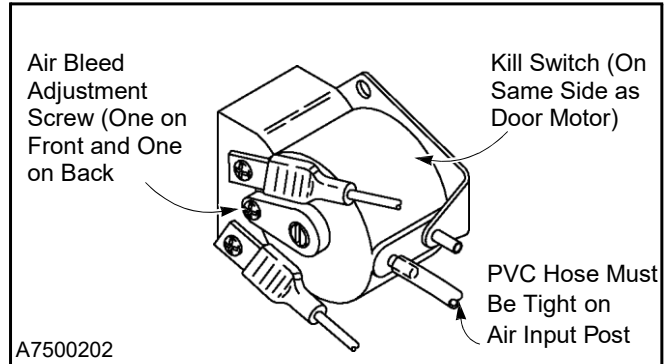

Figure 38
2. Make sure the clear PVC hose is tight on the air input post so that air leakage cannot occur and vibration will not cause the hose to fall off. Also make sure the hose is not kinked. (See Figure 38)
3. The air bleed has been set at the factory and should not require adjustment. To adjust the air bleed, turn the air bleed adjustment screws located on the front and back of the switch fully clockwise, but do not overtighten. Then turn each screw counterclockwise one full turn. (See Figure 38)